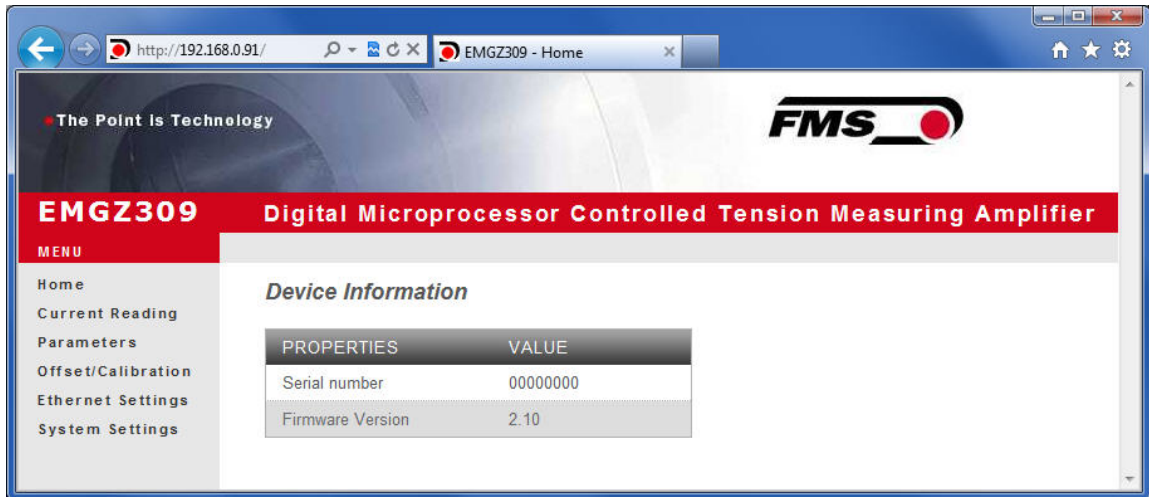

Fig. 17: Home Page with Serial number and device information
Once the amplifier was integrated in the network you can address the device e.g. with <http://192.168.0.090> . After establishing the link, the screen Fig. 17 will open up.
2. The default IP address for the EMGZ309 is **192.168.000.090** as long as it was not changed over the operating penal. Enter the IP address e.g. with <http://192.168.000.090> in the address bar and hit the Enter key. The screen "Device information" **Fig.17** will open up.